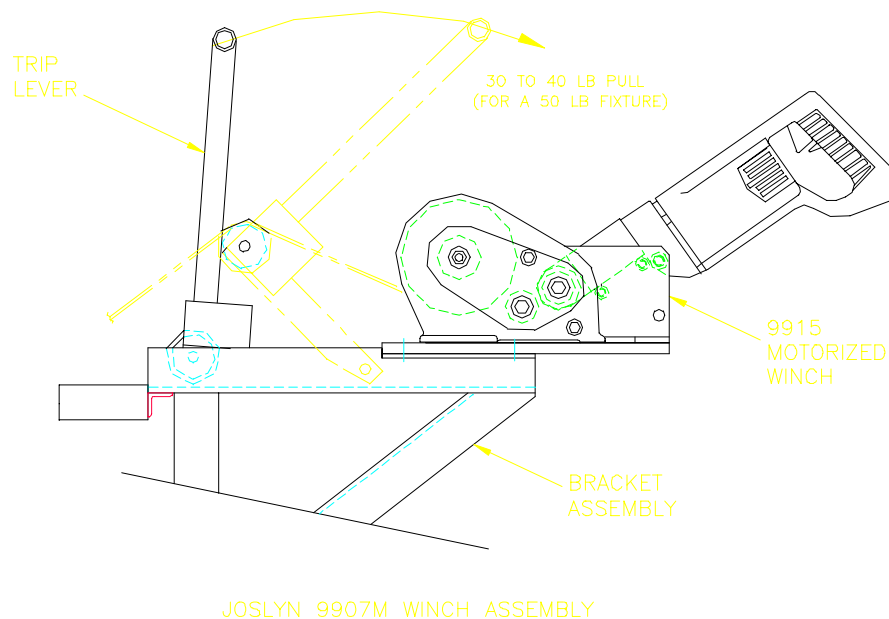

Figure 4-4. Winch and Trip Lever Handle
- (2) Set drill motor switch to the forward mode, apply power, and turn winch in the forward direction (clockwise) until a slight resistance is indicated.
- (3) Set drill motor to the reverse mode, apply power, and introduce slack in operating cable by turning winch drum counterclockwise approximately $\frac{1}{4}$ turn.
- (4) Grasp the trip lever handle and pull back firmly with 30 to 40 pounds of force (for a 50 pound fixture [Figure 4-4]). The force required depends on the weight of the fixture.
(5) Release (let go of) trip lever handle and allow trip lever to suddenly fly downward and stop against the winch bracket (see Figure 4-4). At this stage the latch has released in the hanger assembly and the two halves are separated.
(6) Gently tug on cable leaving the pole or mounting surface to determine cable tension.
- (2) Stop raising the fixture when contacts are seated (the winch brake will engage and hold the fixture in place). At this stage, with instant starting fixtures, the seating of contacts is obvious (the fixtures light).
- (3) Using 30 to 40 pounds of force (for a 50 pound fixture) pull slowly and firmly on the trip lever handle (Figure 4-4). Stop pulling when a strong resistance is felt; indicating the unit is ready for latching.
- (1) Set drill motor switch to the forward mode, apply power, and turn winch in the forward direction (clockwise) until a slight resistance is indicated.
- (2) Set drill motor switch to the reverse mode, apply power, and introduce slack in operating cable by turning winch drum counterclockwise approximately $\frac{1}{4}$ turn.
- (3) Grasp the trip lever handle and pull back firmly with 30 to 40 pounds of force (for a 50 pound fixture [Figure 4-4]).
- (4) Release (let go of) the trip lever handle and allow trip lever to suddenly fly downward and stop against the winch bracket (Figure 4-4). At this stage the latch has released in the hanger assembly and the two halves are separated.
- (5) Gently tug on cable leaving the pole or mounting surface to determine cable tension.
- (3) Using 30 to 40 pounds of force (for a 50 pound fixture), pull slowly and firmly on the trip lever handle (Figure 4-4). Stop pulling when a strong resistance is felt; indicating the unit is ready for latching.